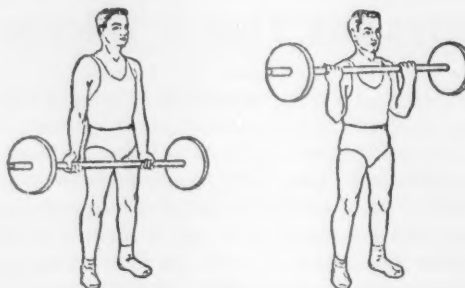

Fig. 4.
• **Arm Curls** (bicep exercise) (Fig. 4). Hold the barbell in front of your thighs with palms forward and hands about shoulder-width apart. Raise the weight by flexing your arms at the elbows until arms are fully bent and the bar is touching the chest. Elbows should be kept at the sides but should not be braced against the body or moved backward or forward. The bar should be lifted in a continuous motion without jerking or using a backbend. The weight should be lowered slowly in the same manner until your arms are fully extended.